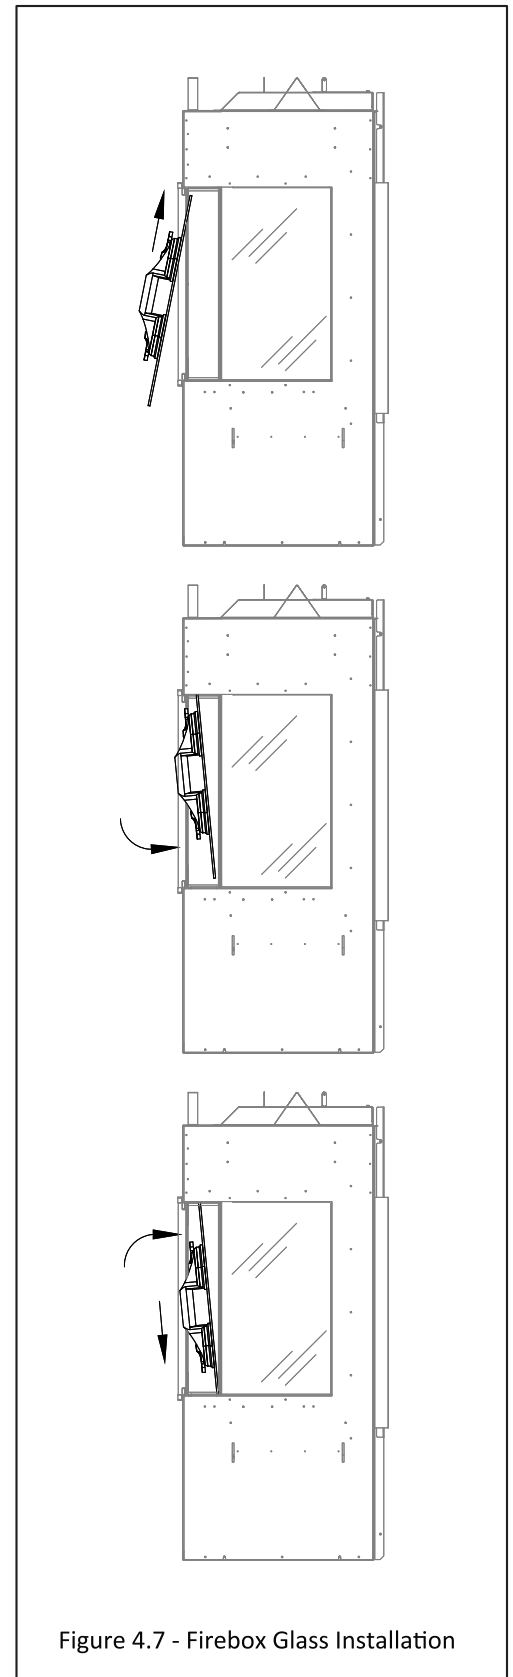

Figure 4.7 - Firebox Glass Installation
2. Install the front piece of glass. When installing the front piece of glass you may find it helpful to start with the bottom glass brackets installed but left loose. As you lift the glass into place (See Figure 4.7) start with the glass slightly off to the side of the firebox that does not have the side glass installed yet. You are able to slide the front glass sideways into the silicone sealing strip of previously installed side firebox glass.